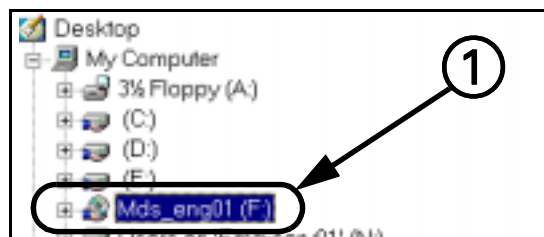

Figure 13-50 Windows Explorer
5. Verify that there is a hand graphic (see ① in Figure 13-50) under the CDROM icon.